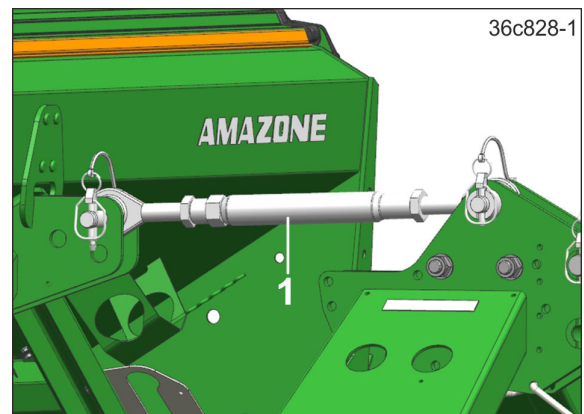

Fig. 98
12. Align the pack top seed drill until straight by adjusting the top link (Fig. 98/1). Secure the top link (lock nut).